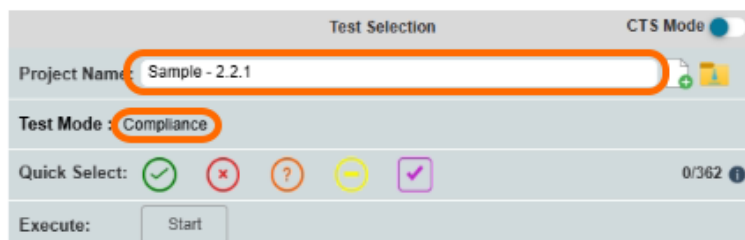

FIGURE 8.36: CREATE NEW PROJECT— #6
3. The new project will be created with the provided Project Name and Test Mode as shown in the Figure 8.36 example below. The user can now proceed with the test configuration.